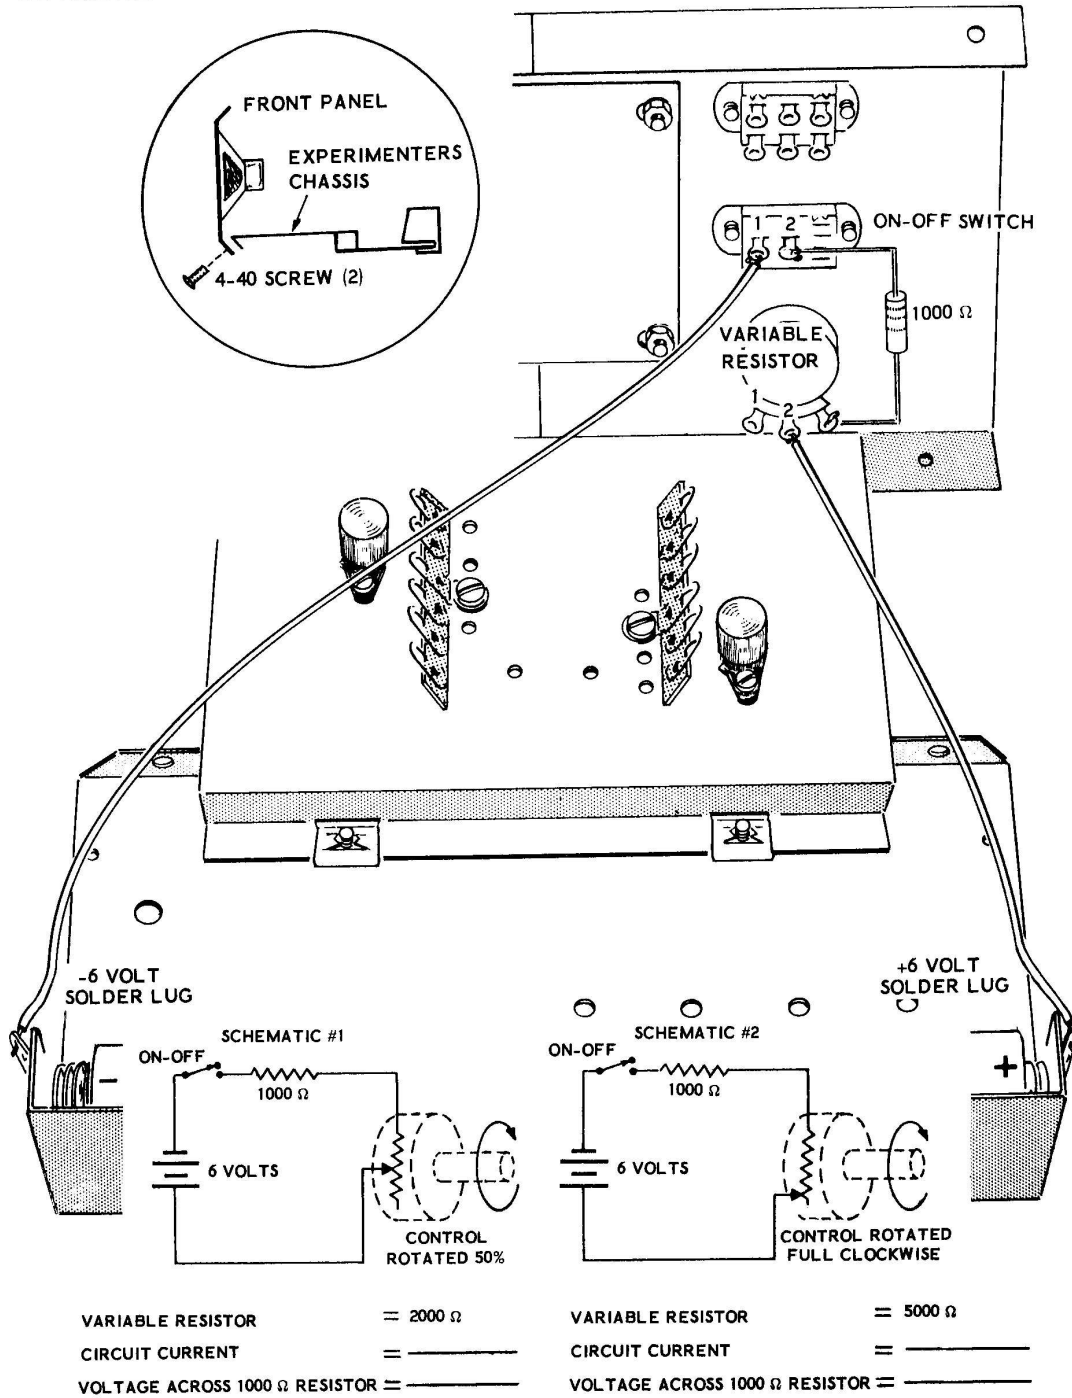
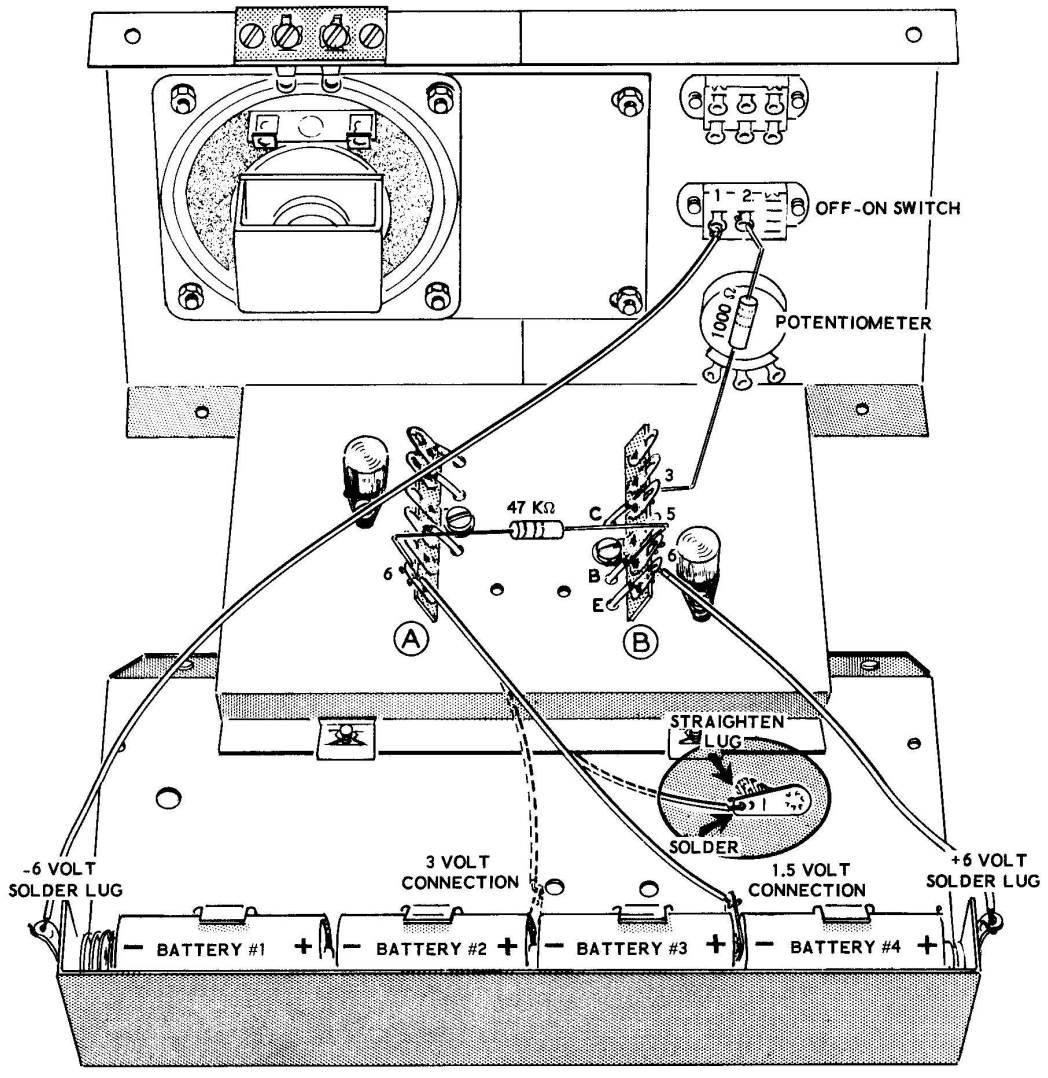

Figure 3K
Figure 3L
- ( ) Fasten the assembled front panel to the front lip of the experimental chassis as it is in the inset in Figure 3K by installing two 4-40 screws into the 4-40 speednuts on the front flange of the experimental chassis.
Refer to Figure 3K for the following steps.
( ) Remove your meter leads from lugs 2 and 3 of the variable resistor. You have now adjusted the variable resistor to give you the circuit of Schematic #1 of Figure 3K.
- ( ) Connect the minus voltmeter lead to lug 2 of the ON-OFF switch and connect the positive voltmeter lead to lug 3 of the variable resistor. Turn the ON-OFF switch ON. Note the reading on the meter. This is the voltage across the 1000  $\Omega$  resistor. Mark it down in the correct blank below Schematic #1 of Figure 3K.
- ( ) The circuit has now been adjusted so that your meter will read the current flowing in Schematic #2 of Figure 3K. Note the current reading on the meter and write it down in the proper blank below the schematic.
- ( ) Now connect the negative meter lead to lug 2 of the ON-OFF switch and connect the positive meter lead to lug 3 of the variable resistor. Note the voltage reading on the meter and insert it in the proper blank below Schematic #2 of Figure 3K.
Refer to Figure 3L for the following steps.
- ( ) Disconnect the 1000  $\Omega$  resistor lead from lug 3 of the variable resistor and connect it instead to lug 3 of terminal strip B (S).
- ( ) Disconnect the lead from lug 2 of the variable resistor and connect it instead to lug 6 of terminal strip B (S).
- ( ) Connect a 47 K $\Omega$  resistor from lug 6 of terminal strip A (NS) to lug 5 of terminal strip B (S).
- ( ) Connect a #6 solder lug to one end of a 6-1/2" hookup wire as shown in the inset drawing of Figure 3L (S). Squeeze the solder lug out flat with pliers before soldering the lead to it.
NOTE: The experimental chassis is now wired with the circuit shown in schematic #1 of Figure 3L. To make the schematic diagram easier to follow, the battery which controls the current in the transistor is shown separately. Actually it is battery #4 that is used for this purpose, as well as its normal purpose of supplying power to the rest of the circuit (in series with the other three batteries). The 47 K $\Omega$  resistor is used only as a protective device (current limiter) in the circuit, and it should not be considered as an integral part of the experiment.
- ( ) The circuit of Schematic #1 is now completed since your meter bridges across the ON-OFF switch. Note the reading on the meter and mark it down in the blank for measured circuit current (I) on Schematic #1 of Figure 3L.
- ( ) Turn the ON-OFF switch to the ON position and note the reading on the meter. Mark this voltage reading down in the blank for the "measured voltage across R1," the 1000  $\Omega$  resistor at Schematic #1 on Figure 3L.
SCHEMATIC #1 OF FIGURE 3L
SCHEMATIC #2 OF FIGURE 3L
- ( ) Note the current indicated by the meter and mark it down in the blank for "measured Circuit Current" (I) at Schematic #2 of Figure 3L.
- ( ) Turn the ON-OFF switch ON and note the meter reading. Mark this voltage reading down in the blank for "measured voltage across R1" at Schematic #2 in Figure 3L.
When you have calculated this resistance, mark it down in the correct blank at Schematic #1 of Figure 3L.
- ( ) When this transistor resistance has been calculated, mark it in the proper blank at Schematic #2 of Figure 3L.
Experiment 1 (Figure 3K) showed how current can be controlled with a variable resistor. By changing the setting of the variable resistor, the current in the circuit changed and when the current changed, it changed the voltage across resistor R1. Experiment 2 (Figure 3L) showed that the same type of control can be accomplished using a transistor in place of the variable resistor. Notice that the voltage at R1 was changed by changing the voltage connected between the Base and the Emitter of the transistor. When this voltage at the Base of the transistor was changed, it changed the resistance of the transistor in the series circuit. When the resistance of the transistor changed, it changed the current flowing in the circuit just as the variable resistor did. The result of the current change was the same as the result obtained in Experiment 1, the voltage across R1 changed.